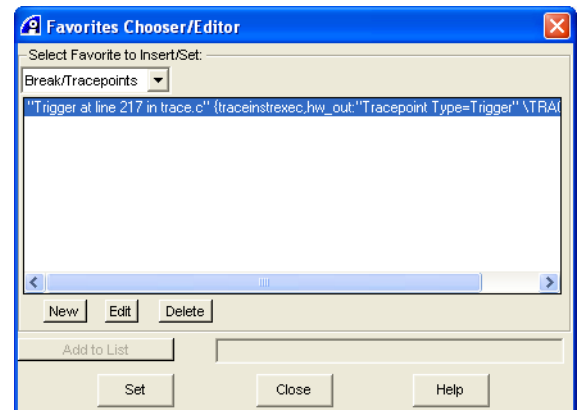

Figure 6-7 Favorites/Chooser Editor dialog box
1. Select **Debug** → **Breakpoints** → **Set Break/Tracepoint from List** → **Break/Tracepoint Favorites...** from the Code window main menu to open the Favorites Chooser/Editor dialog box. Figure 6-7 shows an example. Any previous tracepoints that have been added to the list are shown.